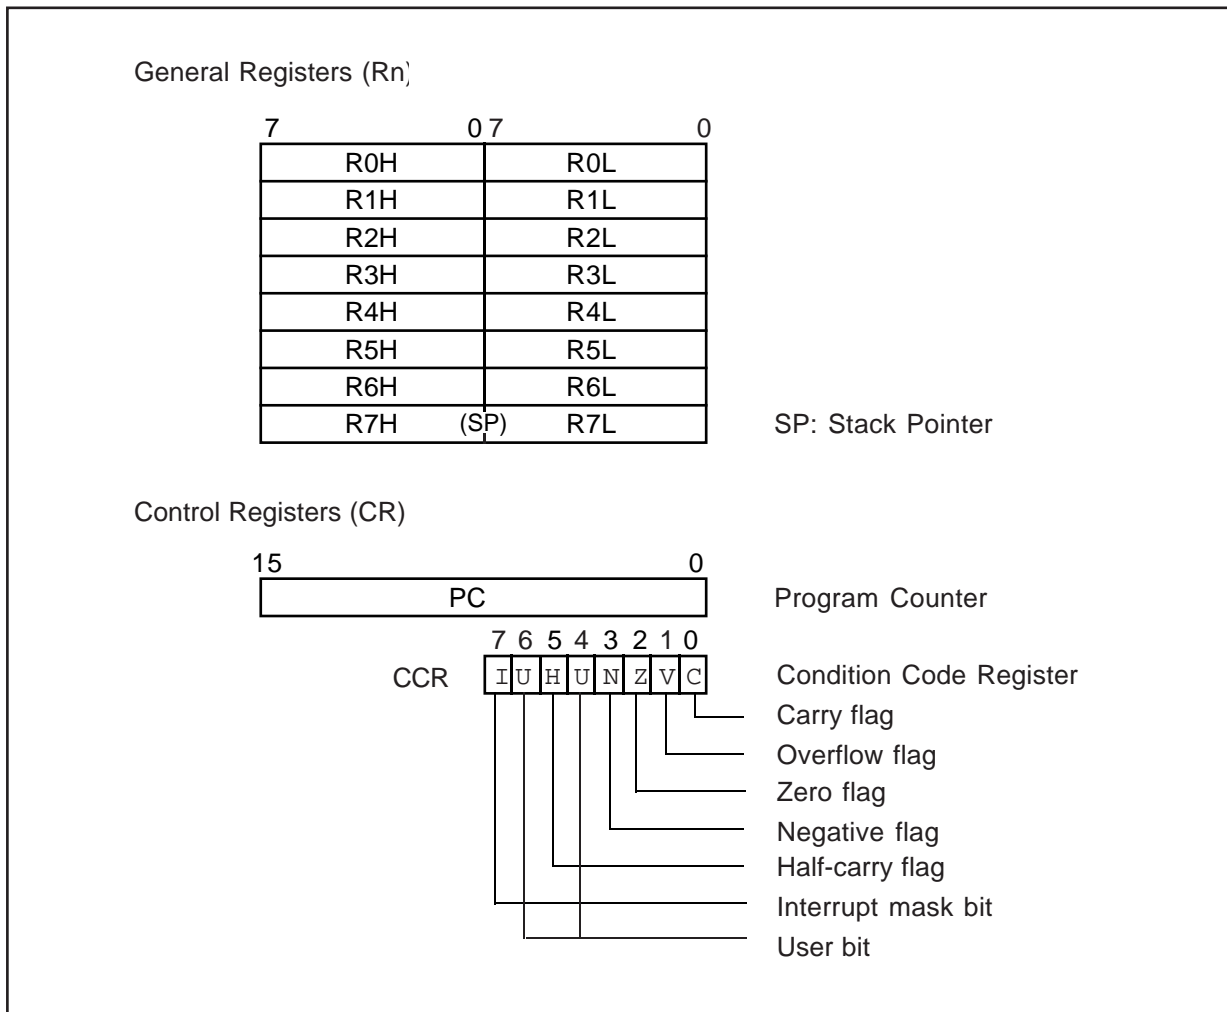

Figure 1-3. CPU Registers
Figure 1-3 shows the register configuration of the H8/300L CPU. There are 16 8-bit general registers (R0H, R0L, ..., R7H, R7L), which can also be accessed as eight 16-bit registers (R0 to R7). There are two control registers: the 16-bit program counter (PC) and the 8-bit condition code register (CCR).